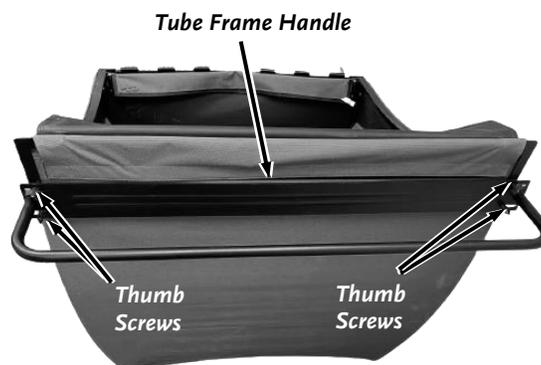

Figure 52
4. Attach the Tube Frame Handle by positioning the slots into the two exposed threads on each corner. Once in place, secure the handle with four Thumb Screw Knobs (**Figure 52**).